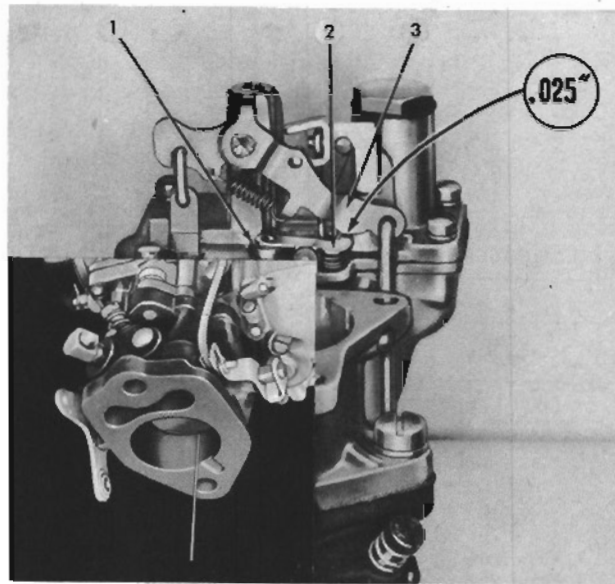

FIG. 34
Anti-Percolator.—To check the seating of the anti-percolator cap (1, Fig. 34), insert a .030" (0,76 mm.) wire, Gage No. J-1388, in the throttle body opposite the idle port (see inset). With the throttle closed on the wire, there should be .025" (0,64 mm.) clearance between the anti-percolator rocker arm (2) and the pump operating lever (3). If an adjustment is necessary, bend the anti-percolator rocker arm to obtain the proper clearance.